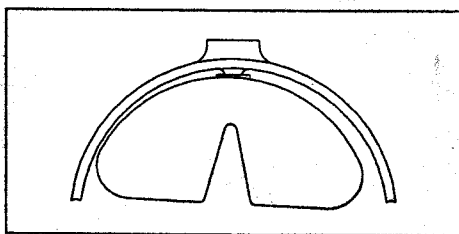

Figure 6-1: Misalignment of cover plate of electrical reed vibrator with inside diameter of Proving Ring.
6. In special cases, particularly in the smaller capacity Proving Rings, it is impossible to back-off the armature stem hex head screw enough to permit the Electrical Reed Vibrator to start. This is usually caused by an improper clamping action of the brass lock pin which causes the Vibrator to shift out of alignment. This condition is readily noticed by observing the alignment of the front diameter of the Proving Ring (see Figure 6-1).